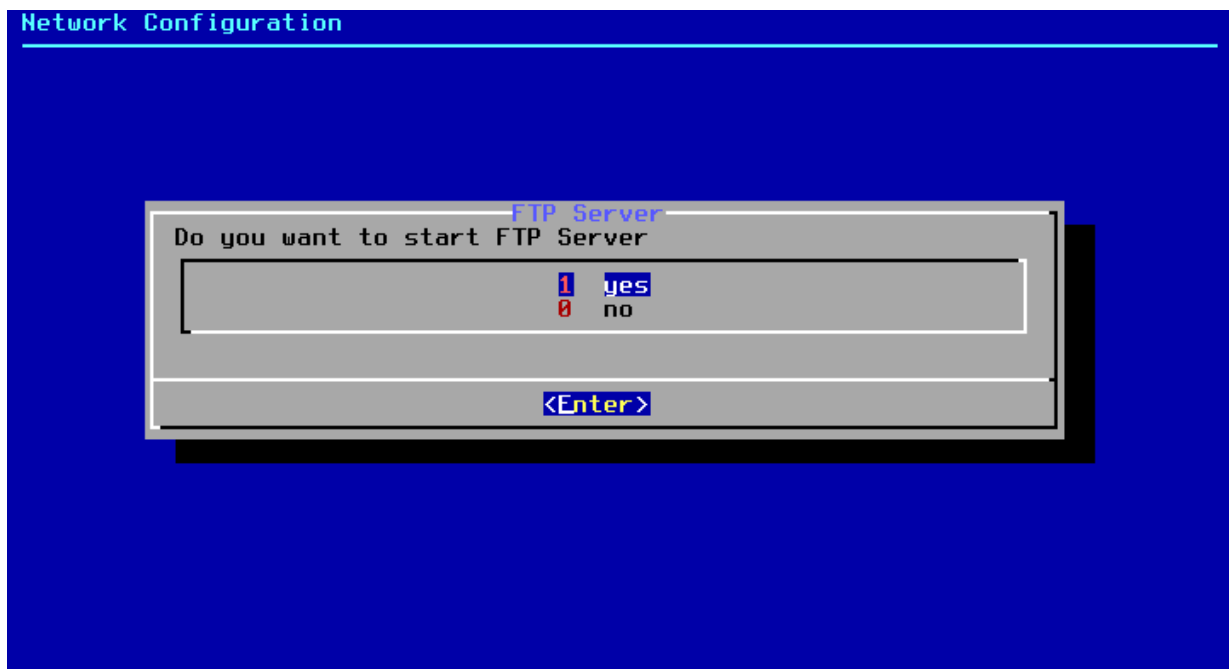

Figure 36: FTP server setting
3. select FTP Server (fig. 36)